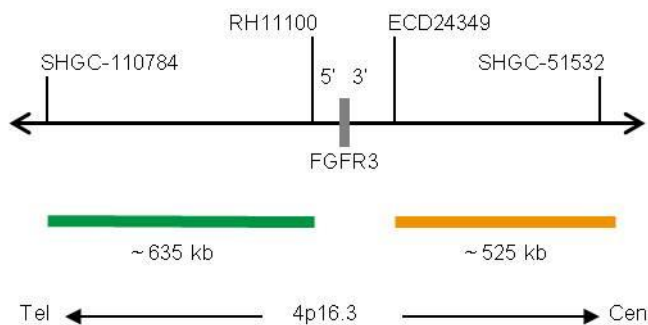

Fig. 1: SPEC FGFR3 Probe map (not to scale)
- ZyGreen (excitation 503 nm/emission 528 nm) labeled polynucleotides (~10.0 ng/ μ l), which target sequences mapping in 4p16.3* (chr4:1,093,149-1,729,455) distal to the FGFR3 breakpoint region (see Fig. 1).
- ZyOrange (excitation 547 nm/emission 572 nm) labeled polynucleotides (~4.5 ng/ μ l), which target sequences mapping in 4p16.3* (chr4:1,922,997-2,446,931) proximal to the FGFR3 breakpoint region (see Fig. 1).